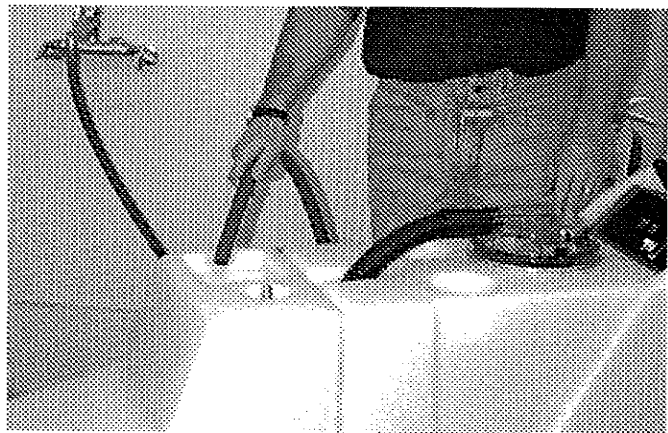

FIG. 1
1. Fill the solution tank with 15 gal. (66L) of water, (140°F, 60° C maximum), and add a recommended liquid cleaning agent to the proper dilution ratio. (Figure 1)